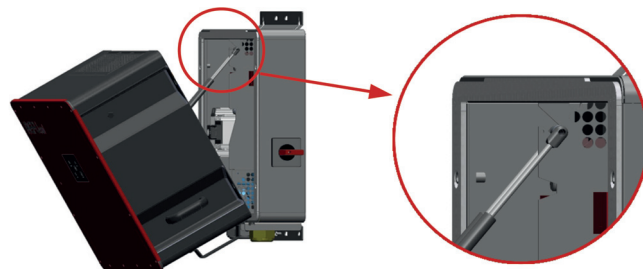

Fig. 17: Hooking hydraulic rod in the recess of the ConnectionBox when mounted vertically
3. One person should hold the PowerUnit in place while the 2nd person should hook the hydraulic rod into the slot in the ConnectionBox as seen in figure 17.